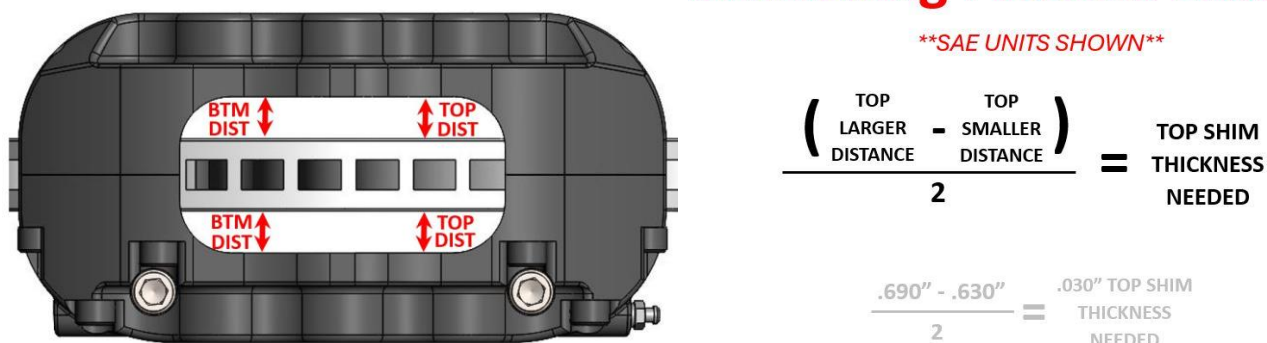

Figure 8 – Caliper Shimming Reference
11. After installing the caliper, it is necessary to center the caliper over the rotor using the supplied shim kit. Measure the gap from the rotor to caliper body with feeler gauges. With all measurements taken, **SUBTRACT THE SMALLER DISTANCE FROM THE LARGER DISTANCE.** Take that difference and divide it by two to determine the proper shim thickness required. For example, the outside measurement is .690” and the inside measurement is .630” leaving a difference of .060”. Divide the difference by two leaving the necessary shim at .030”. **Do this procedure at both the top and bottom of the caliper to determine appropriate shim thickness for each caliper mounting ear. It is possible for each caliper mounting ear to require different thickness shims.** Set the gaps to within .005-.010” of each other. An example of the shim thickness calculation is shown below in Figure 8. Follow the steps below for proper shimming of the calipers once the measurements have been taken: